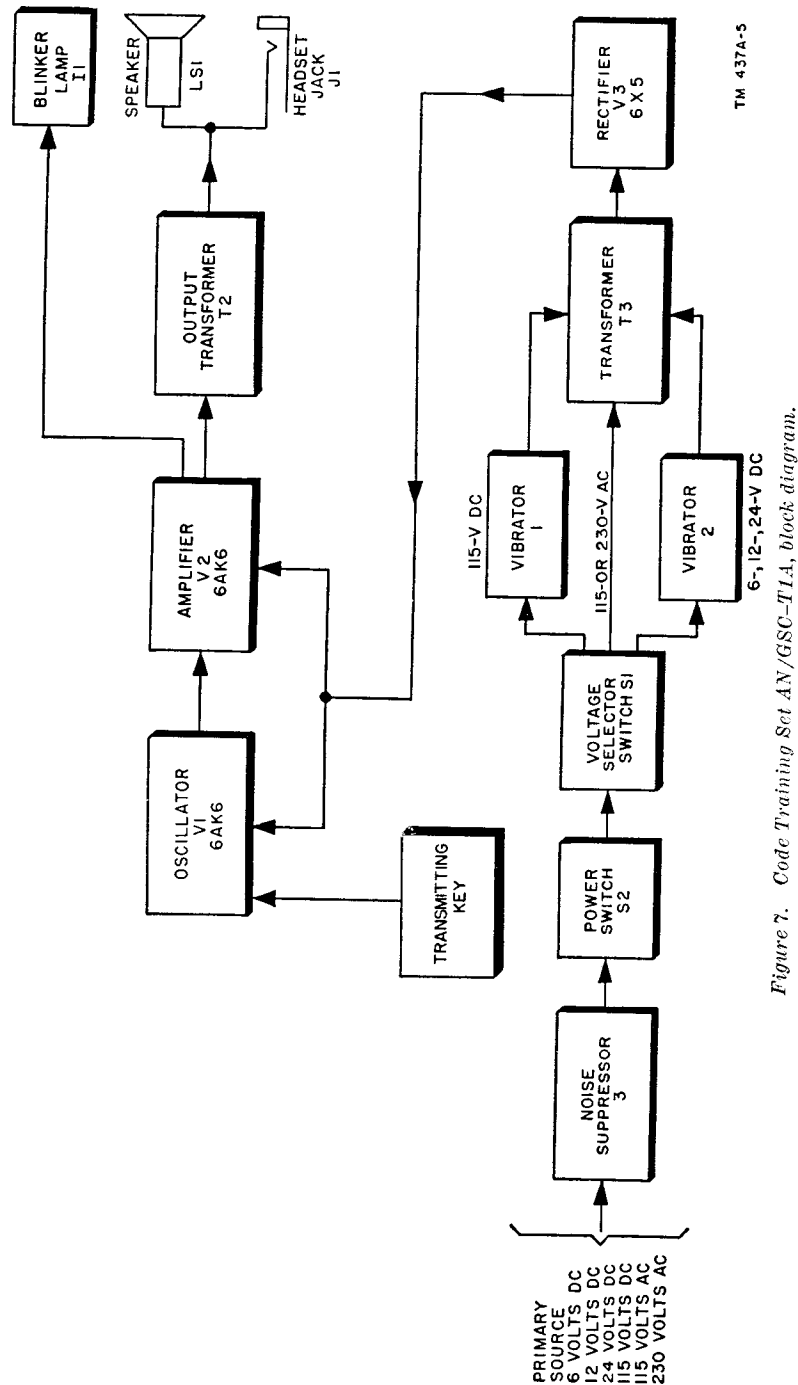

Figure 7. Code Training Set AN/GSC-T1A, block diagram.
#### 36. Block Diagram (fig. 7)
b. Power from any one of the six primary sources noted in paragraph 39 is applied through the noise suppressor (3, fig. 7) to voltage selector switch S1 when POWER switch S2 is operated to the ON position. The 6-, 12-, or 24-volt d. c. sources are applied to *vibrator 2* through the voltage selector switch S1. The 115-volt d. c. source is applied to *vibrator 1* through the voltage selector switch. A. c. voltages of 115 volts and 230 volts are applied directly to the primary winding of transformer T3 from the selector switch. Vibrator 2 supplies 6, 12, and 24 volts pulsating d. c. to the primary of T3. Vibrator 1 supplies 115 volts pulsating d. c. to the primary of T3. Power transformer T3 provides high-voltage a. c. power to duo-diode rectifier tube V3 for full-wave rectification. This tube supplies the high-voltage d. c. for the plate and screen circuits of the amplifier and for the plate circuit of the oscillator.
- b. Block diagram (fig. 7).